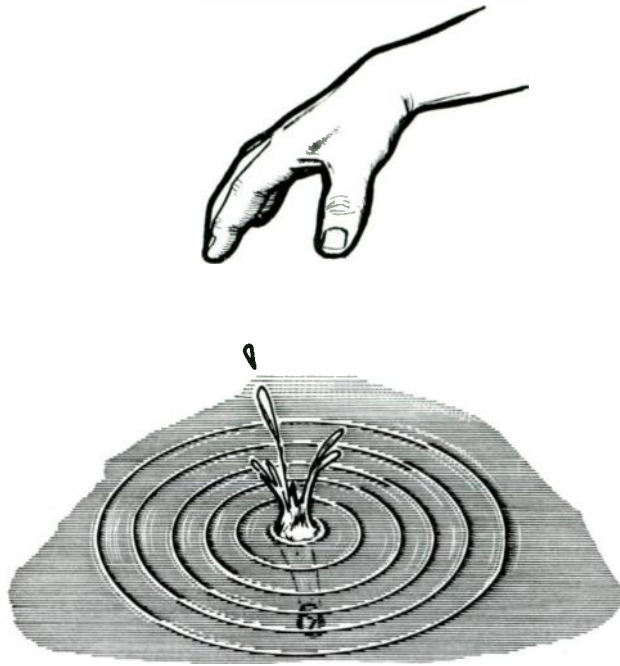

Figure 2 — Waves on the surface of water.
Sound waves radiate from their point of origin in a fashion similar to waves generated on a pond into which a pebble has been thrown (Fig. 2). They travel outward at a constant rate of speed, becoming progressively weaker with distance. These sound waves travel through a material, without some form of matter as a conductive medium they cannot exist. Radio frequency (RF) energy, unlike sound waves, can and does travel through a vacuum. It, too, is vibrating energy but the vibrations are electromagnetic. RF energy is identical to light waves; it differs only in rate of vibration. RF waves, like light, travel at a constant rate of speed, which is much faster than the speed of sound.